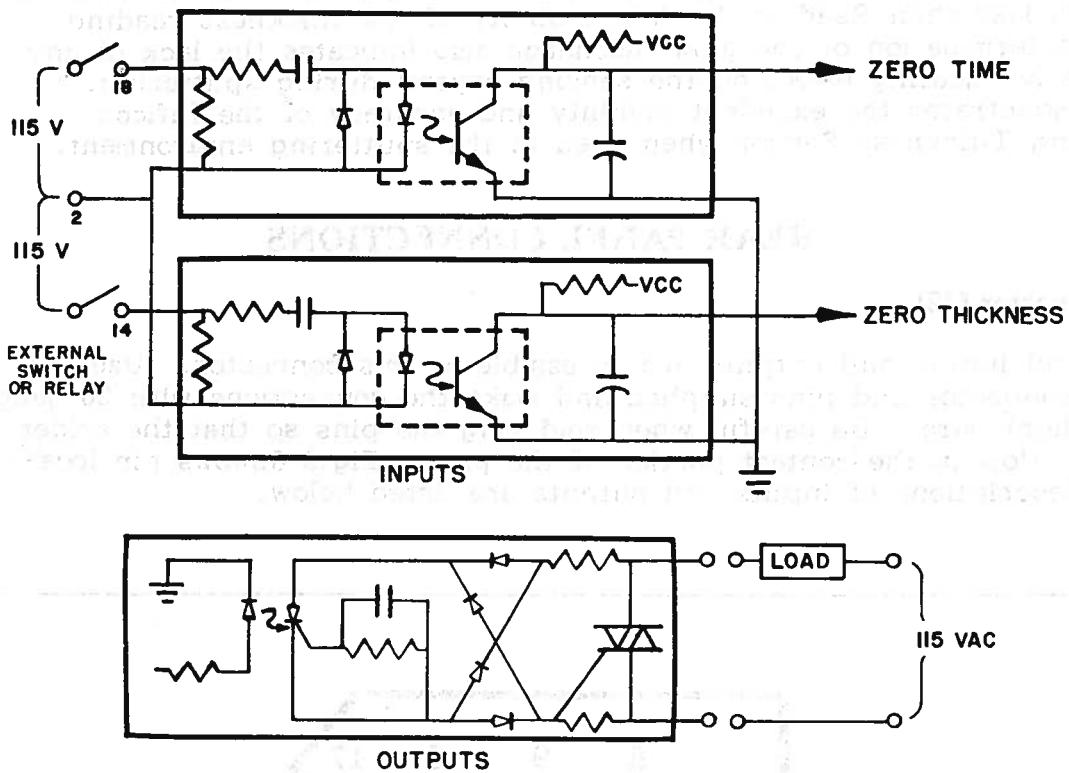

Fig. 3-7 Interface Circuits
All inputs are optically isolated from the internal circuitry and require a 60 - 135 Vac signal between the common input (2) and the function input. A simple contact closure (Fig. 3-7), supplying a 50-60 Hz signal activates the inputs. Current requirements are less than 10 MA rms when using 135 volt input.
The outputs are also optically isolated and each circuit is independent (Fig. 3-7). The Triacs providing circuit closure are rated at 135 volts, 3 amps. To insure reliability, this rating should never be exceeded.